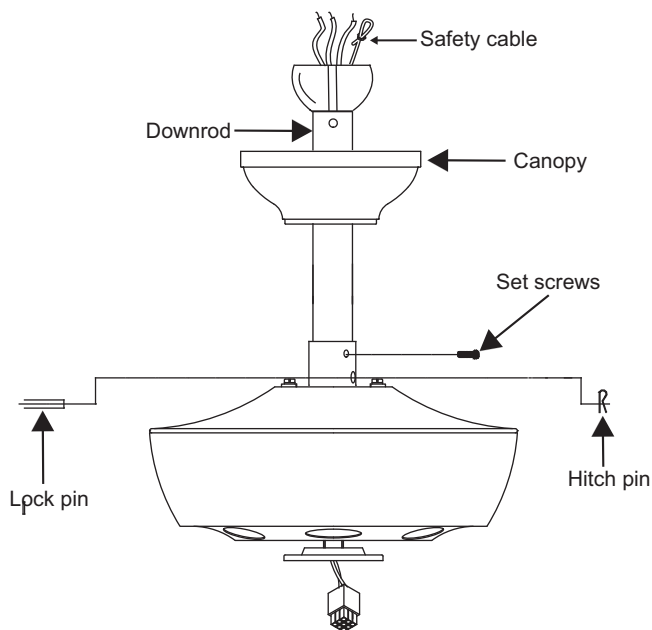

Figure 6
Step 3. Remove the hanger pin, lock pin and set screws from the top of the motor assembly. (Fig. 6)
Step 4. Route the safety cable and wires exiting from the top of the fan motor through the decorative scroll assembly, canopy cover, canopy and then through the ball / downrod. (Fig. 6)
Step 6. Align the holes at the bottom of the downrod with the holes in the collar on top of the motor housing (Fig. 6). Carefully insert the hanger pin through the holes in the collar and downrod. Be careful not to jam the pin against the wiring inside the downrod. Insert the locking pin through the hole near the end of the hanger pin until it snaps into its locked position, as noted in the circle inset of Fig. 6.
Step 7. Tighten two set screws on top of the fan motor firmly. (Fig. 6)